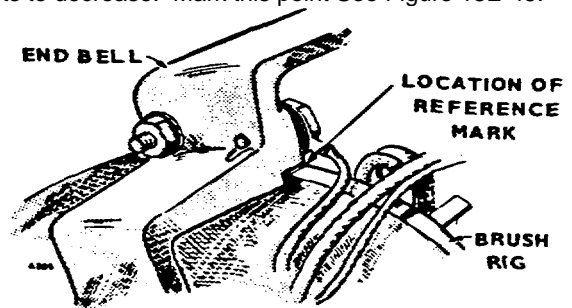

Figure 13E-45. Brush Rig Alignment
8. Rotate the rig in one direction until the voltmeter reading starts to decrease. Mark this point See Figure 13E-45.